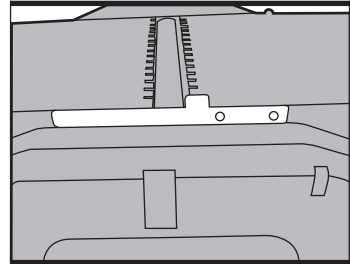

Fig 3
- 1) Locate the 2 x guide fence mounting holes situated on the side of the planning out-feed table (13).
- Then place the safety guard plate. (Fig 3)
- 2) Line up the 2 x mounting holes on the guide fence (8) with those situated on the out-feed table (13).